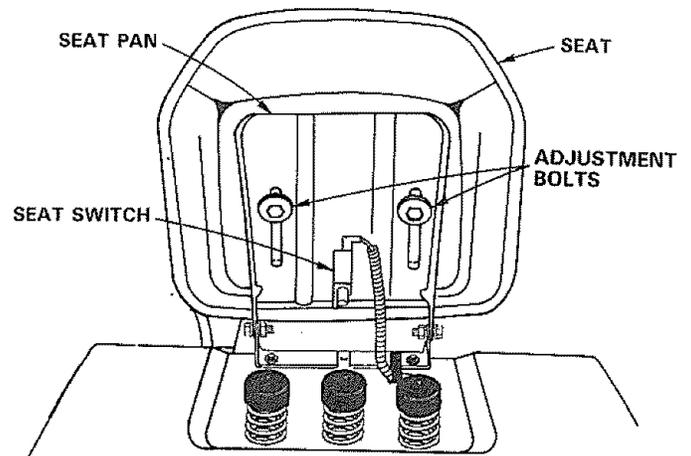

FIGURE 2
- a. Place seat on seat pan. Screw adjustment bolts, lockwashers and flat washers into seat (Fig. 2). Adjustment bolts, lockwashers and flat washers found in bag of parts. Tighten finger tight.
- c. Raise seat. Loosen adjustment bolts (Fig. 2). When adjusted for comfortable operation, tighten adjustment bolts securely with 9/16" wrench.